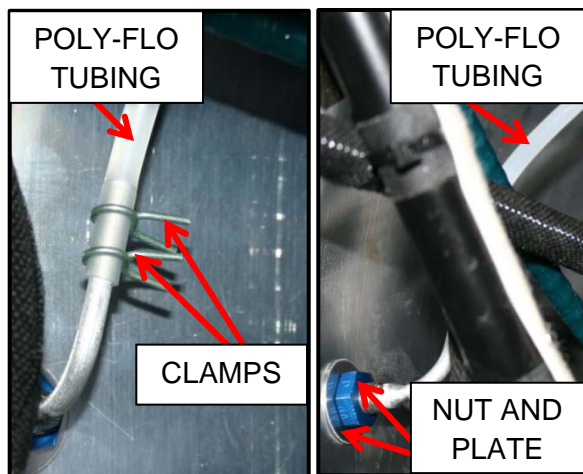
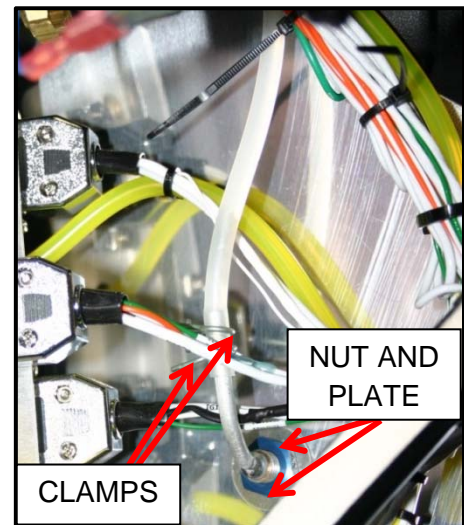

FIGURE 7 - LEFT SIDE Static Port Installation
FIGURE 8 - RIGHT SIDE Static Port Installation
11. Slide the plate and nut down over the static port threads and tighten the nut using blue Loctite, with the port oriented so the tubing goes up. Secure the two clamps over the overlapping tubes (Figure 7 and Figure 8).